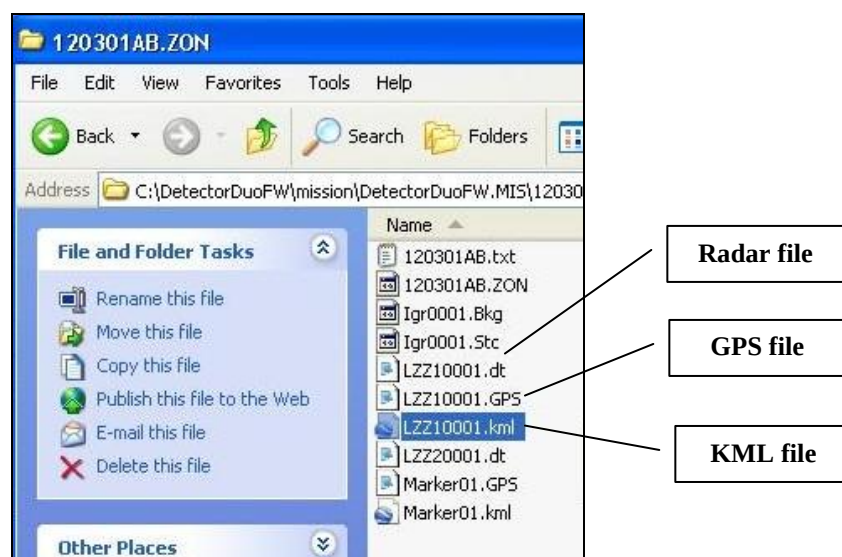

Fig. 6.8 – Example of a KML file
Step 9 In addition to the GPS files the KML files are created too (as shown in the Fig. 6.8). The KML is a file format used to display geographic data in an Earth browser, such as Google Earth. So to open this file the Google Earth needs to be installed.